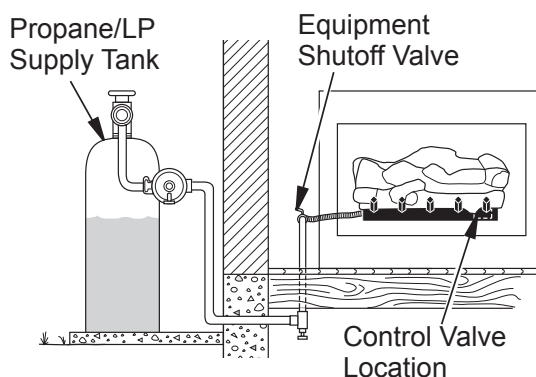

Figure 15 - Checking Gas Joints (Propane/LP Only)
3. Check all joints from gas meter to equipment shutoff valve for natural gas or propane/LP supply to equipment shutoff valve for propane/LP (see **Figure 15 or Figure 16, Page 15**). Apply noncorrosive leak detection fluid to all joints. Bubbles forming show a leak.
4. Check all joints from gas meter to equipment shutoff valve for natural gas or propane/LP supply to equipment shutoff valve for propane/LP (see **Figure 15, Page 14** or **Figure 16**). Apply noncorrosive leak detection fluid to all joints. Bubbles forming show a leak.